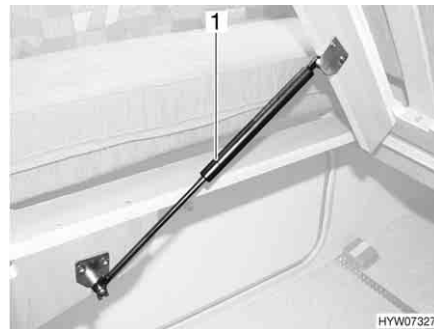

Fig. 109 Fixed bed
- Lift slatted frame. The gas-pressure springs (Fig. 109,1) hold the slatted frame open.